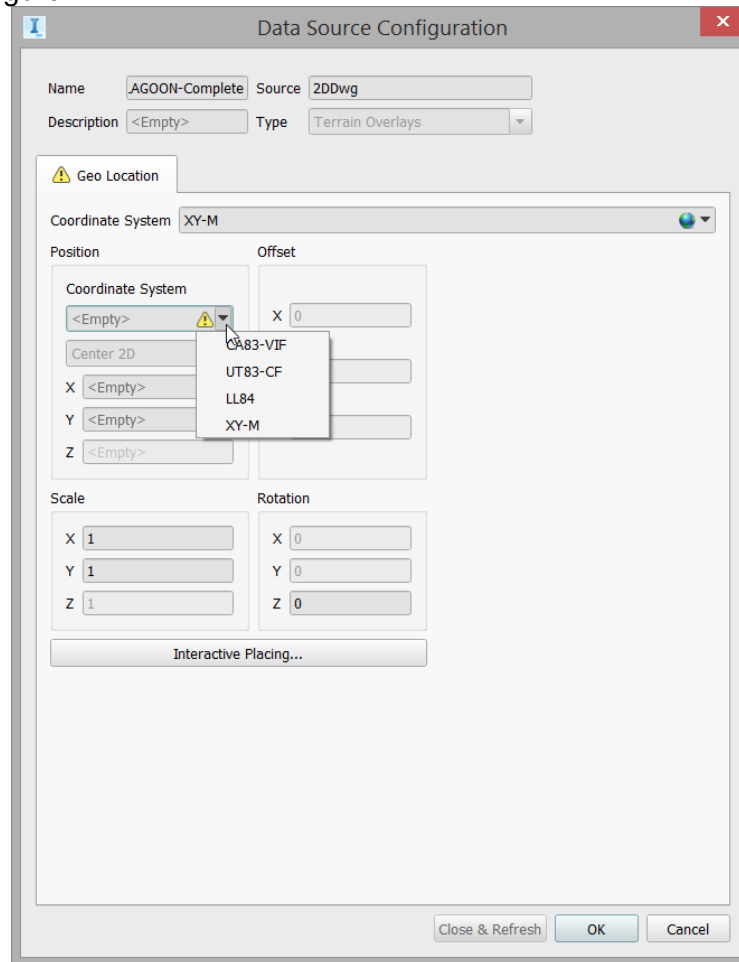

Figure 27
7. In the Data Configuration dialog box, either select the Coordinate System or click **Interactive Placing** to manually place the drawing file where you want in the model, as shown in Figure 27.